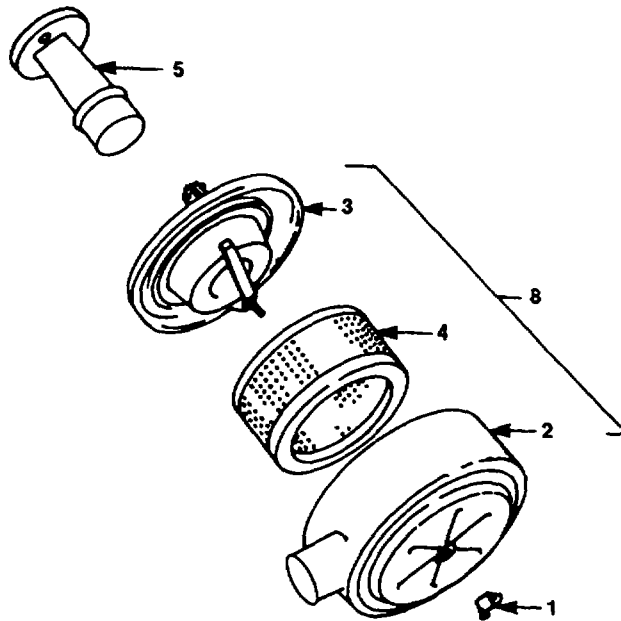

Figure 3-14. Intake Filter Assembly
- a. Remove wingnut (1, figure 3-14).